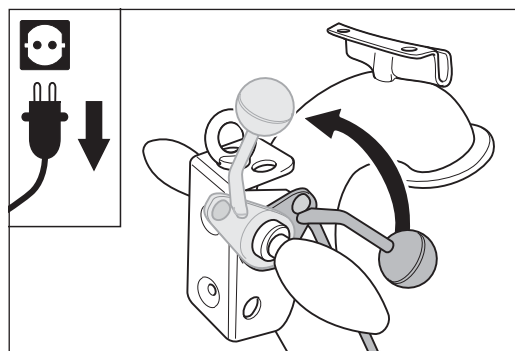

Fig. 60 Lift the sanding drum off the floor by turning the lowering lever at the handle upwards.
- 4 Lift the sanding drum off the floor by turning the lowering lever at the handle upwards (fig. 60).